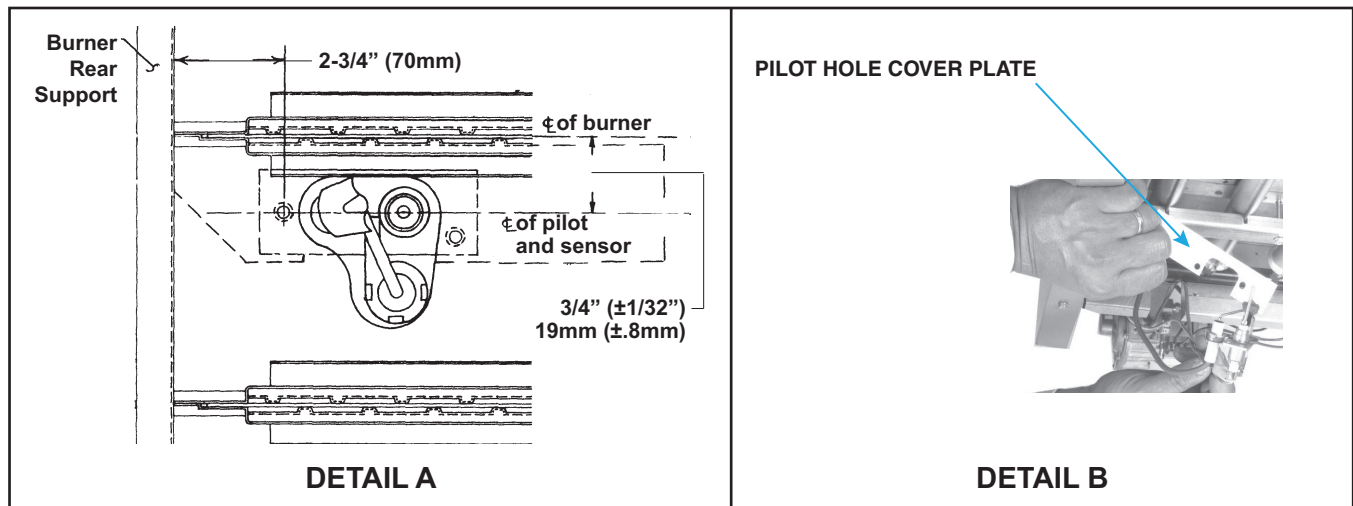

Figure 34. Pilot Location and Installation
- The pilot is located (see Figure 34, DETAIL A) under the aeration panel on the control end of the burner tray and is accessible only after the burner rack assembly has been removed.
- When re-installing a vertical spark pilot, be sure to include the pilot hole cover plate (see Figure 34, DETAIL B).